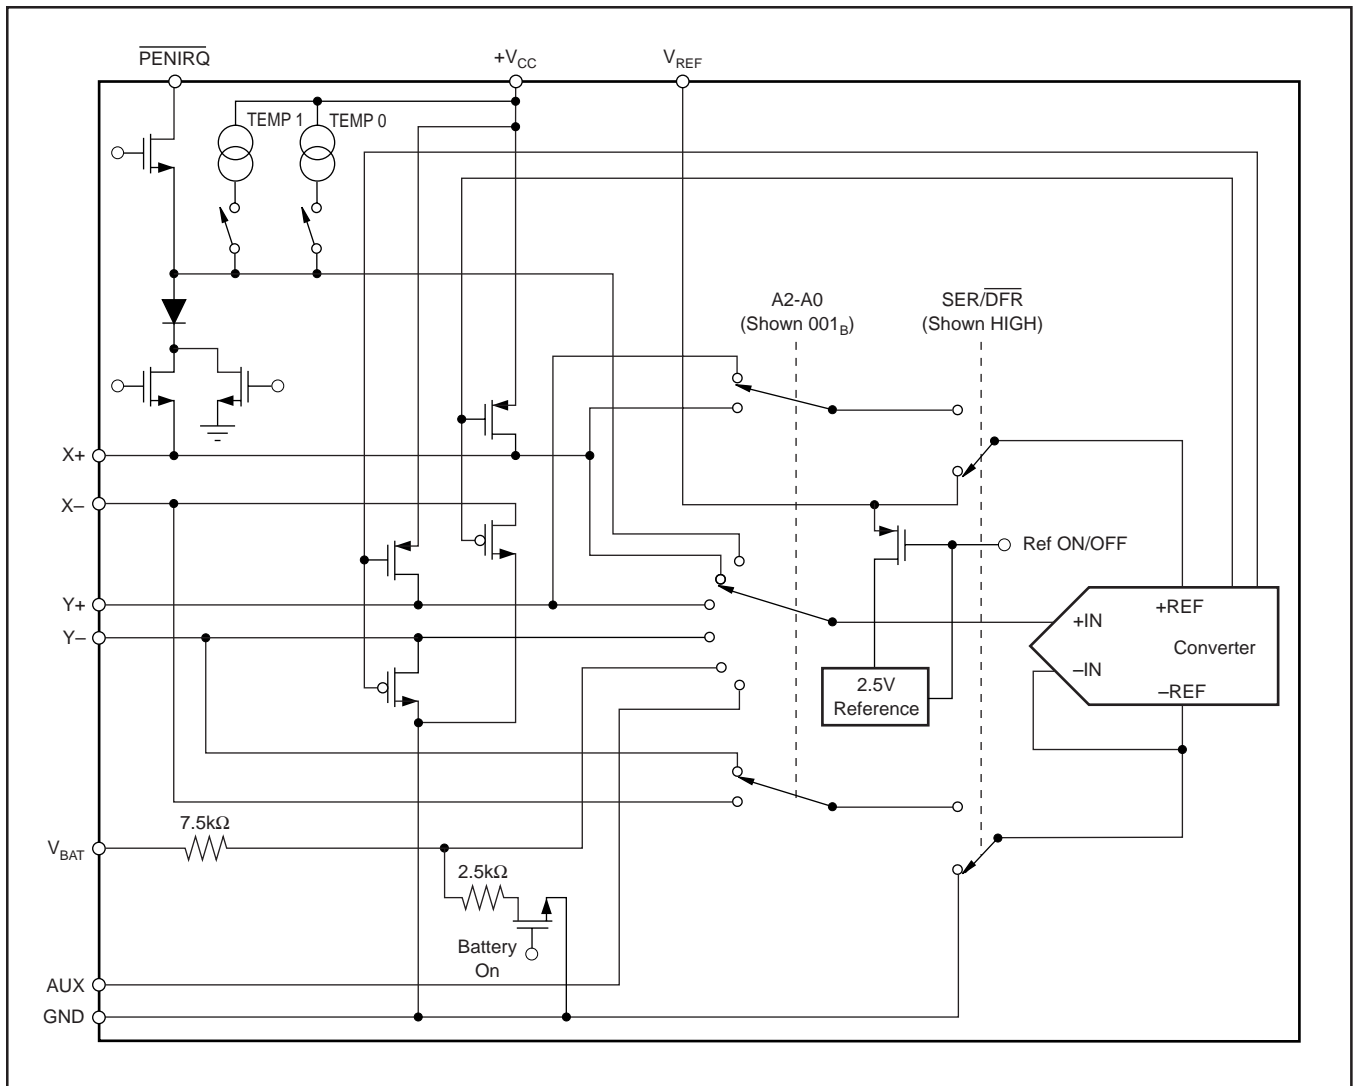

FIGURE 2. Simplified Diagram of Analog Input.
Figure 2 shows a block diagram of the input multiplexer on the ADS7846, the differential input of the ADC, and the converter's differential reference. Table I and Table II show the relationship between the A2, A1, A0, and SER/DFR control bits and the configuration of the ADS7846. The control bits are provided serially via the DIN pin—see the Digital Interface section of this data sheet for more details.
When the converter enters the hold mode, the voltage difference between the +IN and -IN inputs (see Figure 2) is captured on the internal capacitor array. The input current on the analog inputs depends on the conversion rate of the device. During the sample period, the source must charge the internal sampling capacitor (typically 25pF). After the capacitor has been fully charged, there is no further input current. The rate of charge transfer from the analog source to the converter is a function of conversion rate.
The voltage difference between +REF and -REF (see Figure 2) sets the analog input range. The ADS7846 will operate with a reference in the range of 1V to +VCC. There are several critical items concerning the reference input and its wide voltage range. As the reference voltage is reduced, the analog voltage weight of each digital output code is also reduced. This is often referred to as the LSB (Least Significant Bit) size and is equal to the reference voltage divided by 4096. Any offset or gain error inherent in the ADC will appear to increase, in terms of LSB size, as the reference voltage is reduced. For example, if the offset of a given converter is 2 LSBs with a 2.5V reference, it will typically be 5 LSBs with a 1V reference. In each case, the actual offset of the device
**Addressing**—The next three bits (A2, A1, and A0) select the active input channel(s) of the input multiplexer (see Tables I, II, and Figure 2), touch-screen drivers, and the reference inputs.
**$\overline{\text{SER/DFR}}$** —The  $\overline{\text{SER/DFR}}$  bit controls the reference mode, either single-ended (HIGH) or differential (LOW). The differential mode is also referred to as the ratiometric conversion mode. The differential mode is preferred for X-Position, Y-Position, and Pressure-Touch measurements for optimum performance. The reference is derived from the voltage at the switch drivers, which is almost the same as the voltage to the touch screen. In this case a reference voltage is not needed, as the reference voltage to the ADC is the voltage across the touch screen. In the single-ended mode, the converter’s reference voltage is always the difference between the  $V_{\text{REF}}$  and GND pins. See Tables I and II, and Figures 2 through 4 for further information.